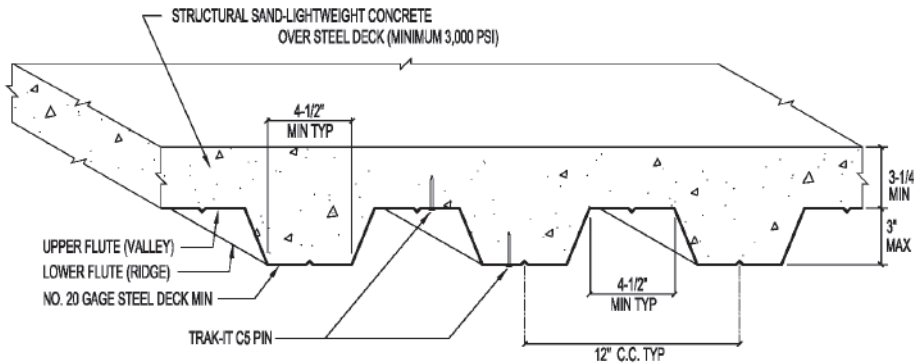

Figure 2: Fastener installation location in 3-inch deep composite deck.
- The steel deck must have a minimum base material thickness of 0.034 inch, minimum yield strength, Fy, of 33ksi, and conform to the profile shown in Figure 2. Concrete fill must be at least 3-1/4 inches above the top flutes.